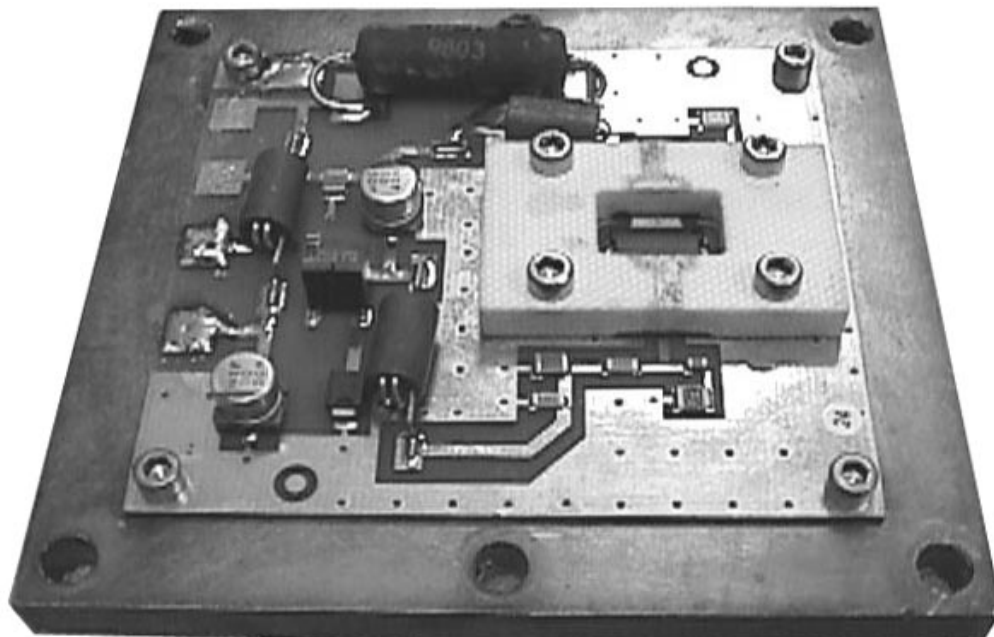
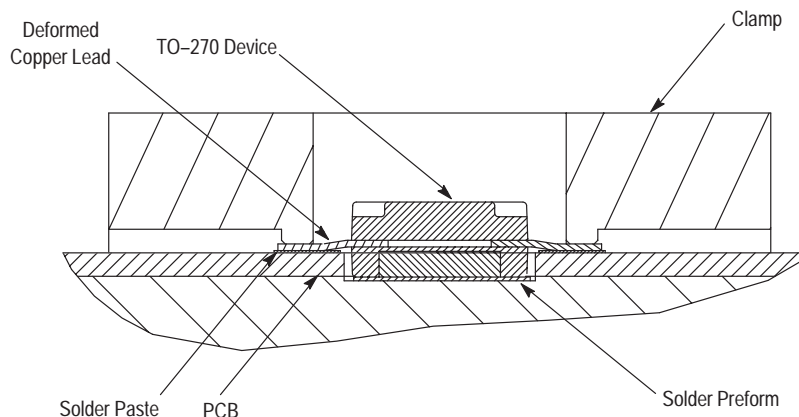

Figure 2. MRF9045MR1 Device Held Down by a Clamp Prior to Soldering
Figure 3. Fixture in Screwed Down Position with Leads Deformed
A TO-270 package soldered to a PCB and heatsink is shown in Figure 2. This assembly was created to develop a typical mounting process flow using a solder reflow process. The gate and drain leads of the device are soldered to the pads
A special fixture was designed to push the leads down at the tips so that (1) the lead tip is at a fixed distance above the top surface of the PCB and (2) the leads are in contact with the solder paste during the reflow process. A complete assembly is shown in Figure 2. The cross-section of the assembly through the fixture and the TO-270 device is shown in Figure 3. To solder multiple components at one time, a simple fixture can be designed to secure all of the components during the reflow operation. Although the soldering fixture used in the reflow of the printed circuit boards was screw mounted, this can be done with several other techniques.